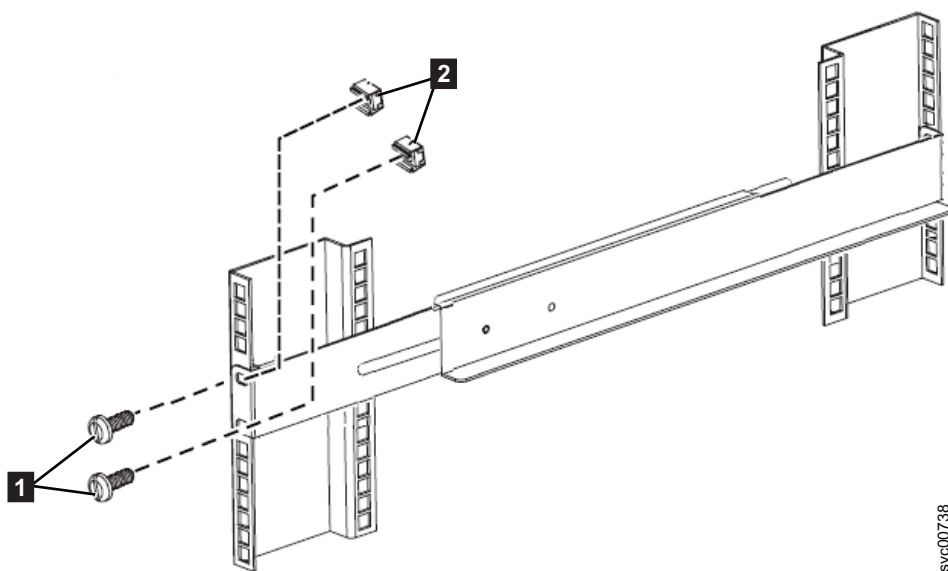

Figure 237. Attaching the rear of the 2145 UPS-1U rail to the rack
5. Select the holes in the rail where you want to position the uninterruptible power supply. The figure shows the rear rail where the 2145 UPS-1U attaches to the rack. See Figure 237 on page 278.